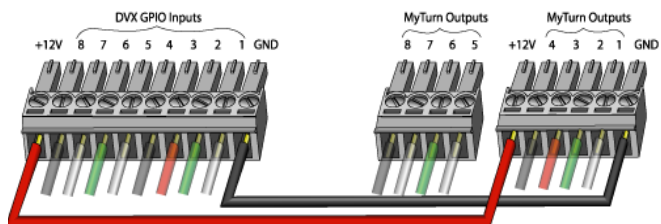

FIG. 5 PHOENIX CONNECTOR WIRING (DVX/NI-CONTROLLER GPIO TO MYTURN RECEIVER)
2. Wire the Solecis, DVX, or NX/NI Master Controller using 24 AWG wire in the Phoenix screw terminals. Ensure Power and Ground are connected as shown (FIG. 5). Use the AXLINK ports for Power and Ground if connecting to a Solecis as